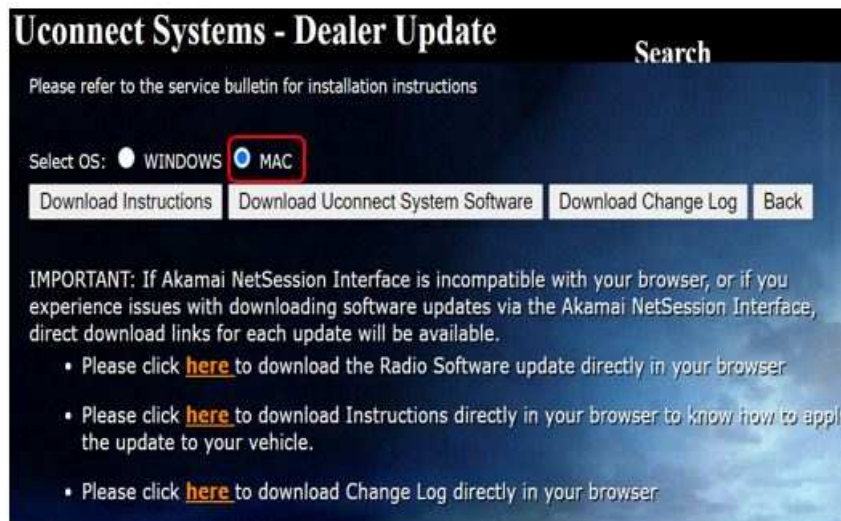

**Fig. 2**
4. If a security message appears “Do you want to view only the web page content that was delivered securely?” (Fig. 2) . Press “No” to continue.